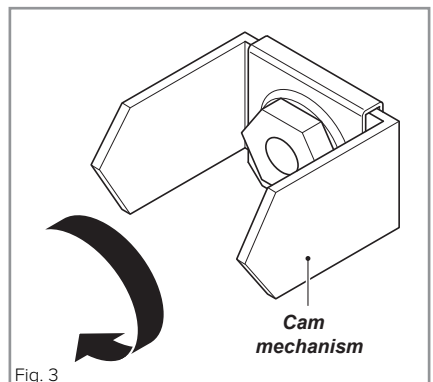

Fig. 3
- Rotate the cam mechanism at the back of the freezer **CLOCKWISE** by 90° (Fig. 3).